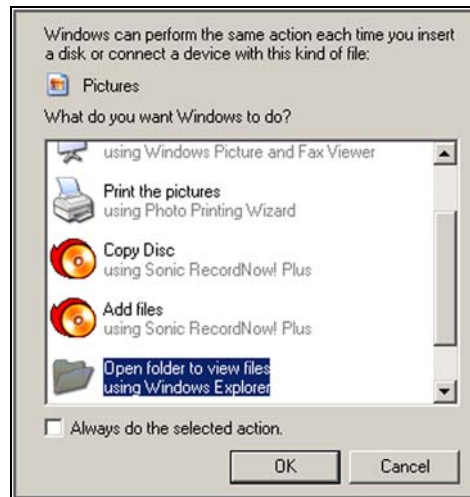

Figure 2-21 Sample “removable disk” dialog
7. If a “removable disk” dialog automatically opens on your PC, click **Cancel** (Figure 2-21).